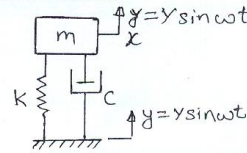

Fig.Q.3(b)
- b. A 50kg mass is attached to a base through a spring and dashpot as shown Fig.Q.3(b). The base undergoes a harmonic excitation of $y = 0.2\sin 30t$. The spring has stiffness value of 3×10^4 N/m and dashpot constant is 200 N-s/m. Find out: i) relative displacement of the mass and ii) Absolute displacement of mass. (08 Marks)